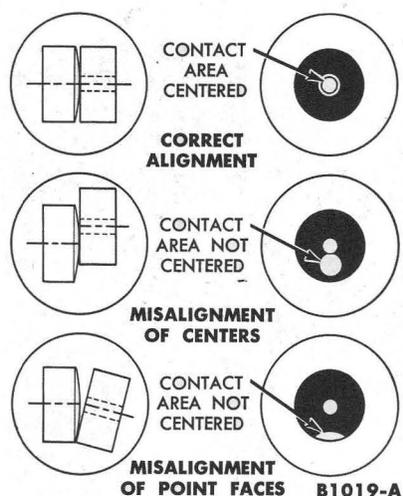

FIG. 11—Breaker Point Alignment
1. Turn the distributor cam so that the breaker points are closed and check the alignment of the points (Fig. 11).